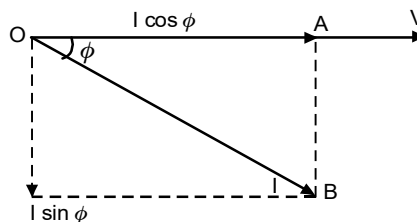
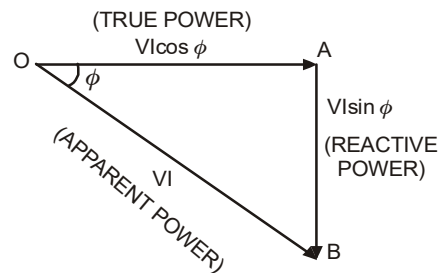

Fig.2.32: Active and reactive component of current
Fig.2.33: Power triangle
The phasor diagram for an inductive circuit is shown in fig. 2.32. where current I lags behind the voltage V by an angle ϕ° . The current I can be resolved into two rectangular components *i.e.* (i) $I \cos \phi$, in phase with voltage V and (ii) $I \sin \phi$, which is 90° out of phase with voltage V .
Power triangle : When each component of current, in fig. 2.32, is multiplied by voltage V , a power triangle is obtained as shown in fig. 2.33. This right angled triangle indicates the relation among true power, reactive power and apparent power.
- (iv) From power triangle shown in fig. 2.33, the power factor may also be determined by taking ratio of true power to apparent power, *i.e.* power factor, $\cos \phi = \text{true power/apparent power}$.